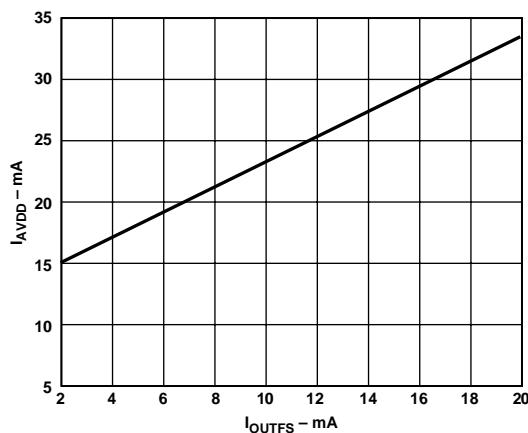

Figure 25.  $I_{AVDD}$  vs.  $I_{OUTFS}$
The power dissipation,  $P_D$ , of the AD9750 is dependent on several factors which include: (1) AVDD and DVDD, the power supply voltages; (2)  $I_{OUTFS}$ , the full-scale current output; (3)  $f_{CLOCK}$ , the update rate; (4) and the reconstructed digital input waveform. The power dissipation is directly proportional to the analog supply current,  $I_{AVDD}$ , and the digital supply current,  $I_{DVDD}$ .  $I_{AVDD}$  is directly proportional to  $I_{OUTFS}$  as shown in Figure 25 and is insensitive to  $f_{CLOCK}$ .